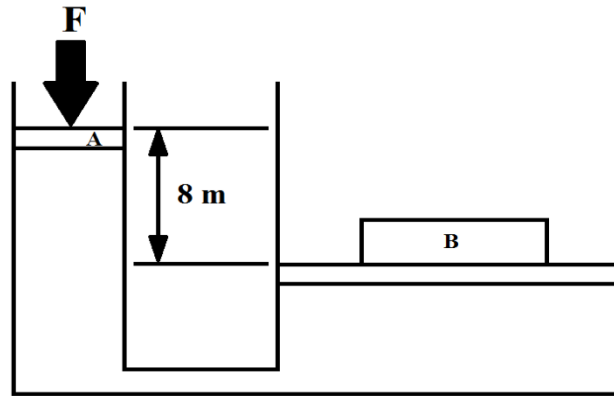

Figure 3
1. Hydraulic Lift- Figure 3 is the principle of working of hydraulic lift. It works based on the principle of equal pressure transmission throughout a fluid.
In Figure 3 below, the areas of plunger A and cylinder B are  $66 \text{ mm}^2$  and  $666 \text{ mm}^2$ , respectively, and the weight of B is  $9600 \text{ kN}$ . The channel connecting A and B filled with oil having a specific gravity of  $0.88$ . What force,  $F$  is required for equilibrium?